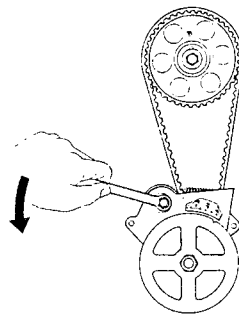

Fig. 2
5. Loosen the timing belt idler pulley set bolt (see Fig. 2).